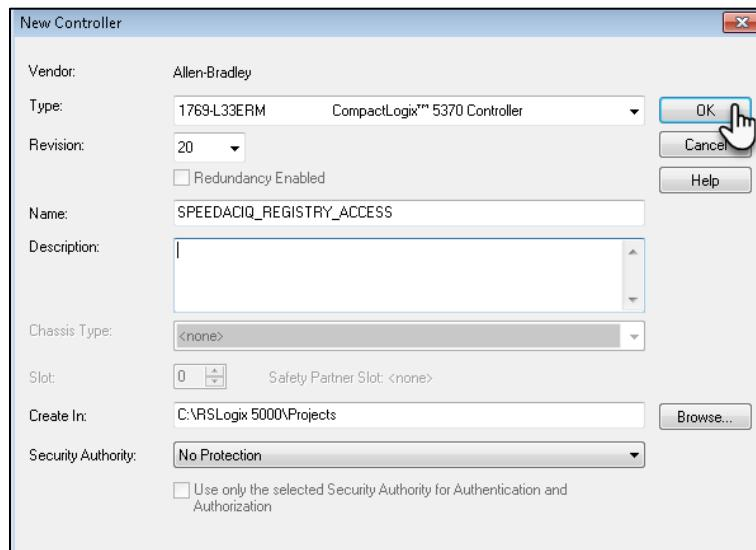

Figure 22: New Program Creation Window
- Open RSLogix and create a new program (e.g: SPEEDACIQ_REGISTRY_ACCESS as per **Figure 22** below).